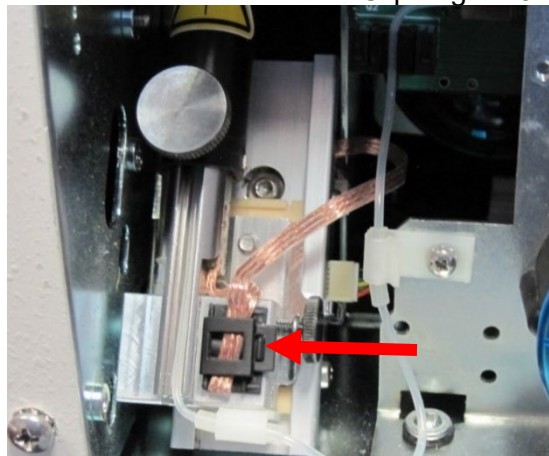

Figure 34
- 8.11. Replace the Probe Wire into the black Wire Clip. Figure 34